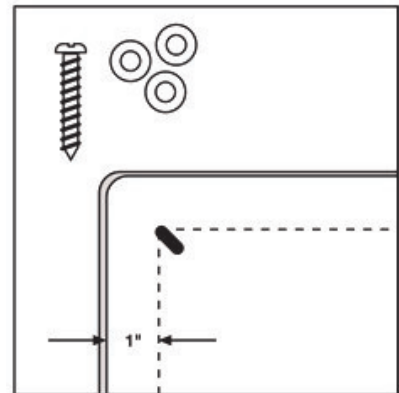

Figure 2c
**Nailing** is suggested for small, thin panels of HDPE material. To use larger nails and screws, holes should be placed at least one inch inward from any edges and predrilled (Figure 2c).